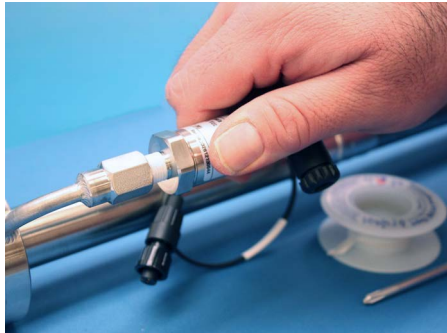

Figure B-16 Replacing pressure sensor
7. Hand tighten the pressure sensor turning it clockwise into the flange until no longer moving freely. Refer to Figure B-16.